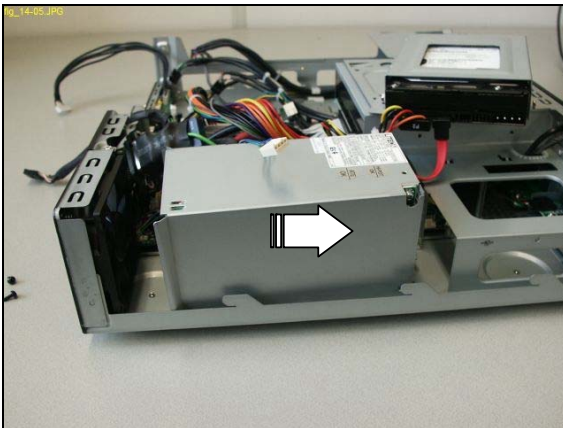

Figure 12.14-5
8. Slide the PSU towards the front of the chassis to gain access to the PSU fan. See Figure 12.14-5.